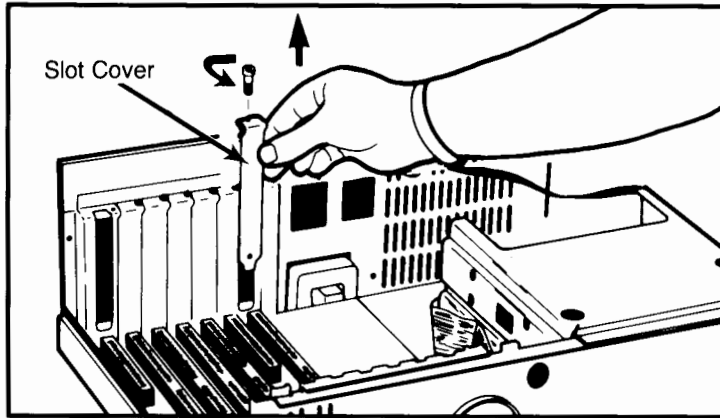

Figure 2-3. Removing the Slot Cover Screw
**4.** Remove the slot cover from the back of your computer by removing the screw which holds the slot cover in place. See Figure 2-3. Save the screw—you will use it to secure the interface card in this slot.